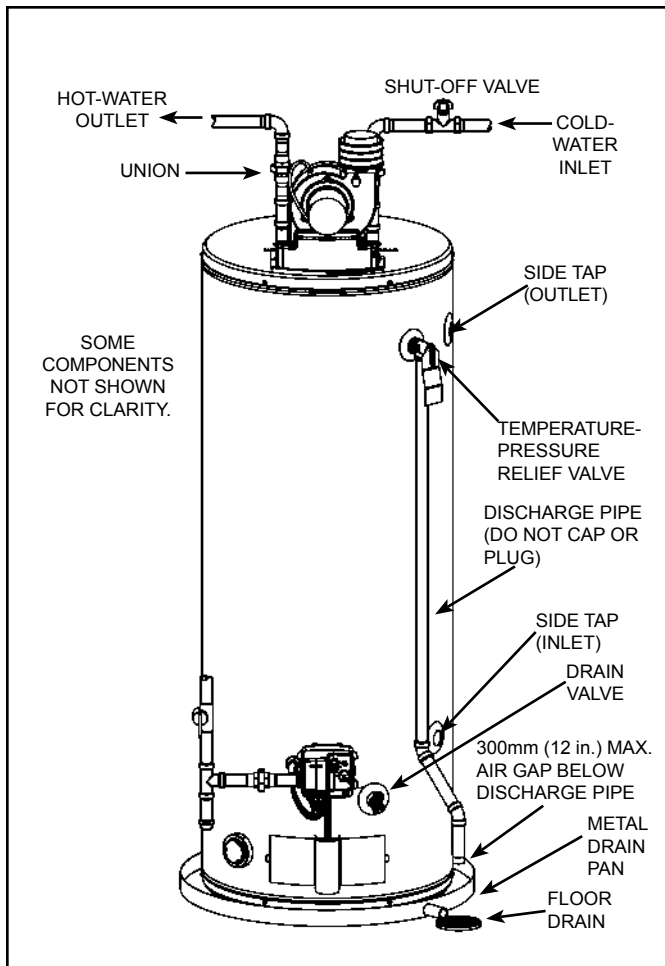

Figure 22
1. Close the water heater drain valve by turning handle to the right (clockwise). The drain valve is on the lower front of water heater (see Figure 22).